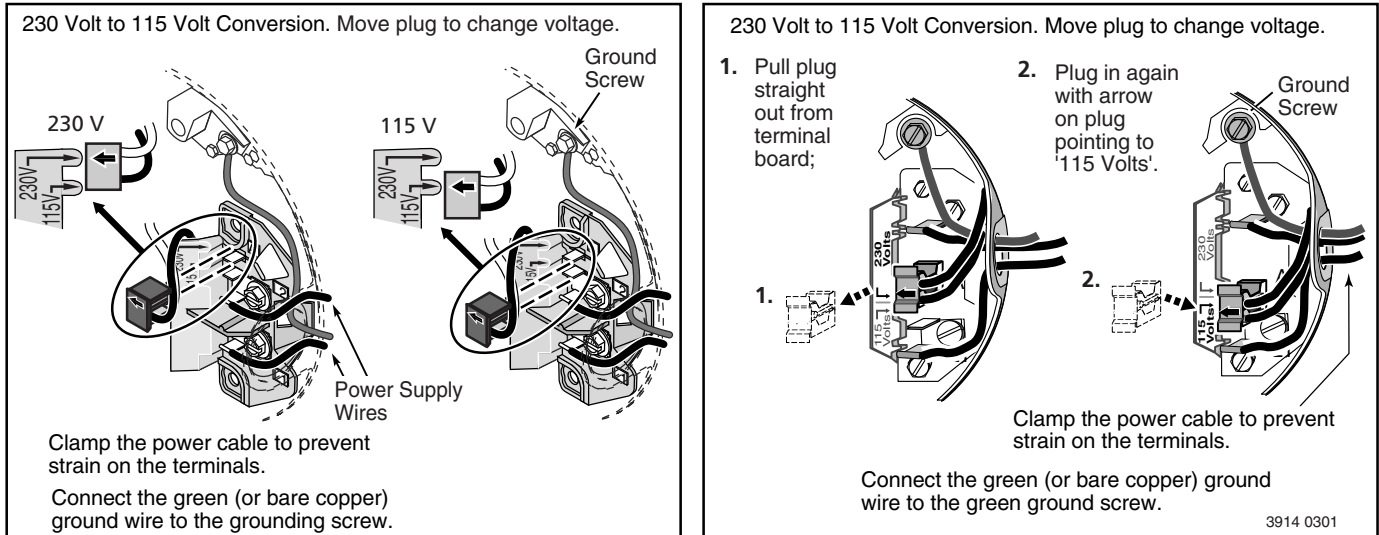

Figure 12 – 115/230V Dual Voltage Single Phase Wiring Diagram
7. Connect current carrying conductors to terminals L1 and L2 under motor canopy. When replacing motor, check wiring diagram on motor nameplate against Figure 12. If the motor wiring diagram does not match either diagram in Figure 12, follow the diagram on the motor.
IMPORTANT: 115/230 Volt single phase models are shipped from factory with motor wired for 230 volts. If power supply is 115 volts, remove motor canopy and reconnect motor as shown in Figure 12. Do not try to run motor as received on 115 volt current.